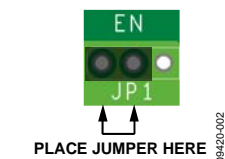

Figure 2. SD Jumper Position
- Disable the converter by using a jumper to connect the left-most pins of JP1. The jumper connects the EN pin to GND, effectively disabling the converter (see Figure 2).